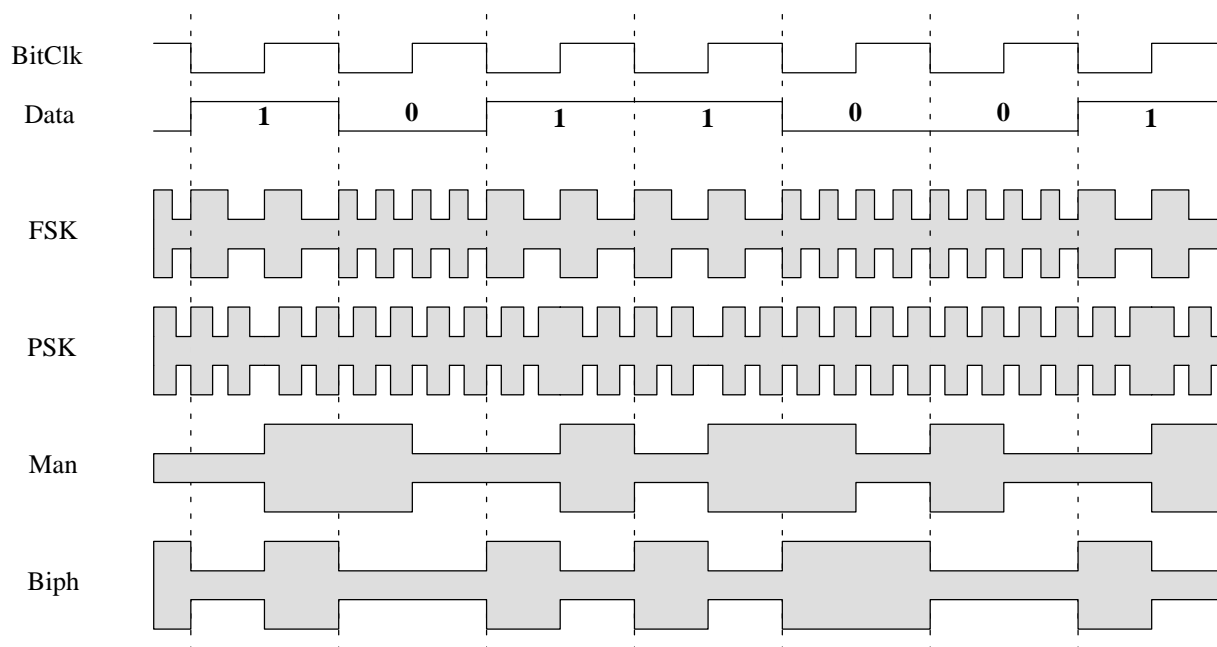

Figure 5. Timing diagram for modulation options
There are four modulation methods available which can be selected by fuses. The corresponding timing diagram is shown in figure 5.
- Modulation method (see figure 5)